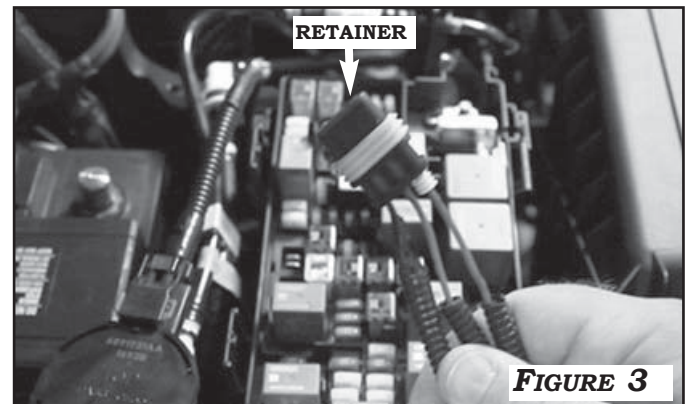

FIGURE 3
3. LOCATE THE BLACK 3-PIN CONNECTOR ON THE CONTROL MODULE. **NOTE: REMOVE THE RED RETAINER FROM CONNECTOR BEFORE INSERTING TERMINALS.** USE THE INSTRUCTIONS ON THE CONTROL MODULE TO INSERT THE TERMINALS FROM THE **BLUE, RED AND BLACK** (ILLUMINATION/POWER/GROUND) HARNESSES PROVIDED IN THE KIT. PRESS IN RED TERMINAL RETAINER AFTER TERMINALS ARE INSERTED. **FIGURE 3**